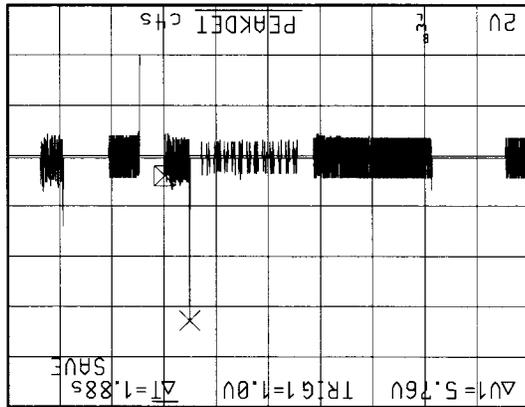

Figure 3-14: Compressed 4K Acquisition
- Step 2:** Turn the **X10 CAL** knob counterclockwise. Note that the timing increases by a factor of four, the small letter "c" appears before the time base readout, and the signal is compressed (Figure 3-14).